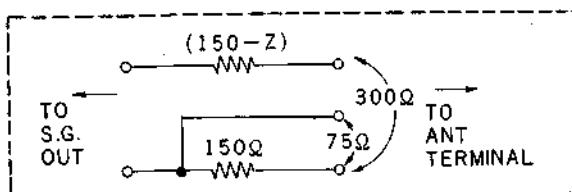

Fig. 3-1-1 Dummy Antenna
- (1) FM Standard Signal Generator (SSG). If such a generator is unavailable, an off-the-air signal at the lowest and highest ends of the band will be acceptable.
- (2) Dummy Antenna See Fig. 3-1-1.
- (3) AC VTVM
- (4) Alignment Tools
- (1) Standard FM Signal Generator (SSG).
- (2) MPX Stereo Signal Generator
- (3) Audio Oscillator
- (4) Distortion Meter with AC VTVM
- (5) Dummy Antenna (See Fig. 3-1-1).
- (6) Oscilloscope
- (7) Alignment Tools